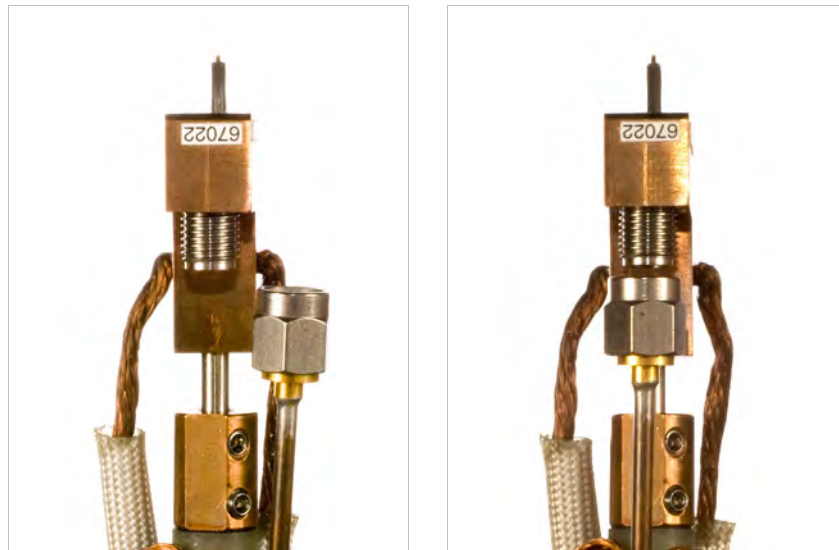

FIGURE 3-27 Left: Misaligned probe; Right: A properly aligned probe
5. As you slide the microwave dowel onto the probe arm, note the relative height of the microwave connector socket on the probe and the microwave connector plug on the semirigid cable. If the relative heights of the two connectors do not match, the semirigid cable can be gently bent using the thumb and forefinger to align the connector plug with the height of the connector socket (FIGURE 3-27).